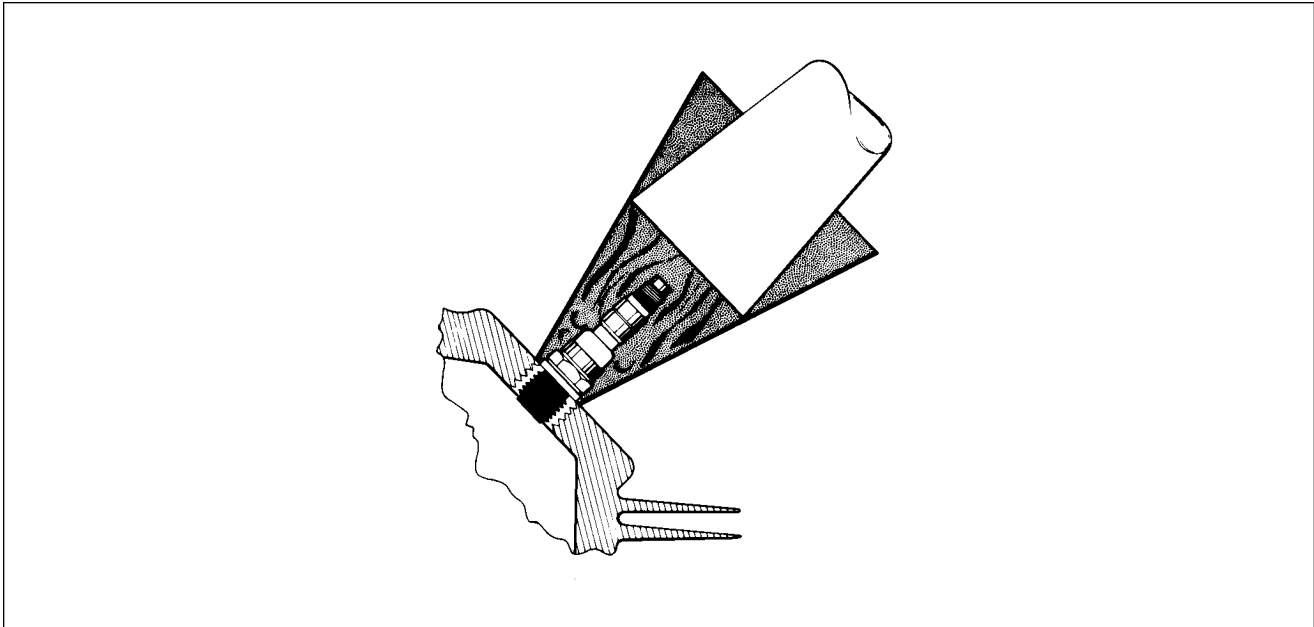

Figure 74-22. Removing Frozen Spark Plug
4. Removal of seized spark plugs in the cylinder may be accomplished by application of liquid carbon dioxide by a conical metal funnel adapter with a hole at the apex just large enough to accommodate the funnel of a CO₂ bottle. (Refer to Figure 74-22.) When a seized spark plug cannot be removed by normal means, the funnel adapter is placed over and around the spark plug. Place the funnel of the CO₂ bottle inside the funnel adapter and release the carbon dioxide to chill and contract the spark plug. Break the spark plug loose with a wrench. A warm cylinder head at the time the carbon dioxide is applied will aid in the removal of an excessively seized plug.